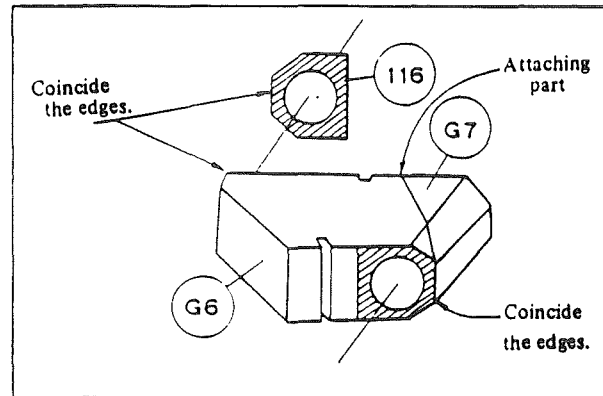

Fig. 19
- 9) Stick prism (G8) to righteye sleeve (106), using No. 2001. Apply this adhesive in a ring all around the top edge of (G8), and inserting (G8) into (106), rotate it several times.
- 10) Attach (106) to prism base (102) with washer (144A) and screws (143A) x2 temporarily. Thereafter, screw in cover ring (107) into (102). (After positional adjustment, stick it with No. 350)
- 11) Attach lefteye sleeve (105) to prism base (103) with washer (144A) and screws (143) x2 temporarily. Thereafter, screw in (107) into (102). (After adjustment, stick it with No. 350)
- 12) Stick plates (116) x2 to light incidence and exit surfaces of (G6), (G7) with adhesive No. 2002. Apply the adhesive in a ring onto the attaching surfaces of the stop plates. After about 30 minutes, attach them to the prisms. Apply black paint to the groove and attaching parts as shown in Fig. 19.